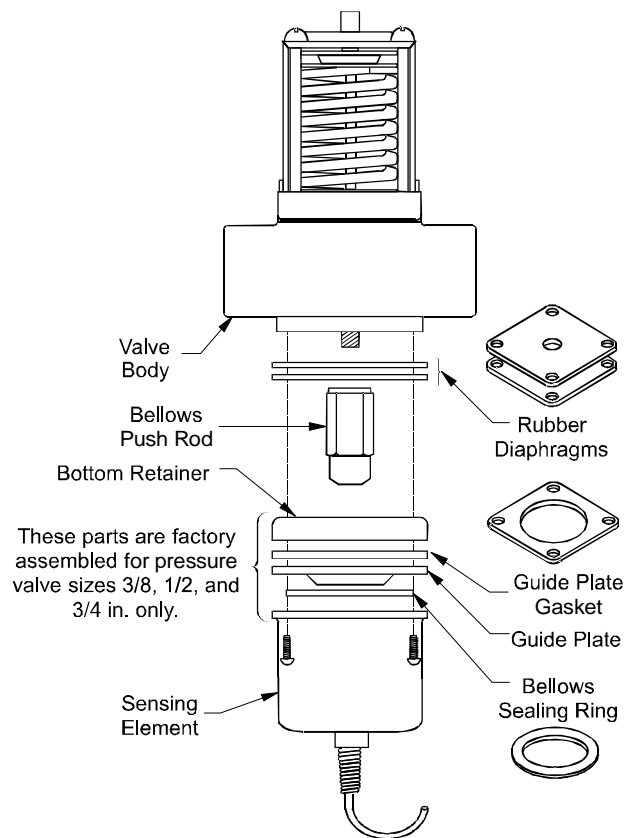

Figure 4: Guide Plate Gasket and Bellows Sealing Ring Identification
8. Replace the three diaphragms between the sensing element and valve body (Figure 4).
9. Replace the guide plate gasket and bellows sealing ring (Figure 4).